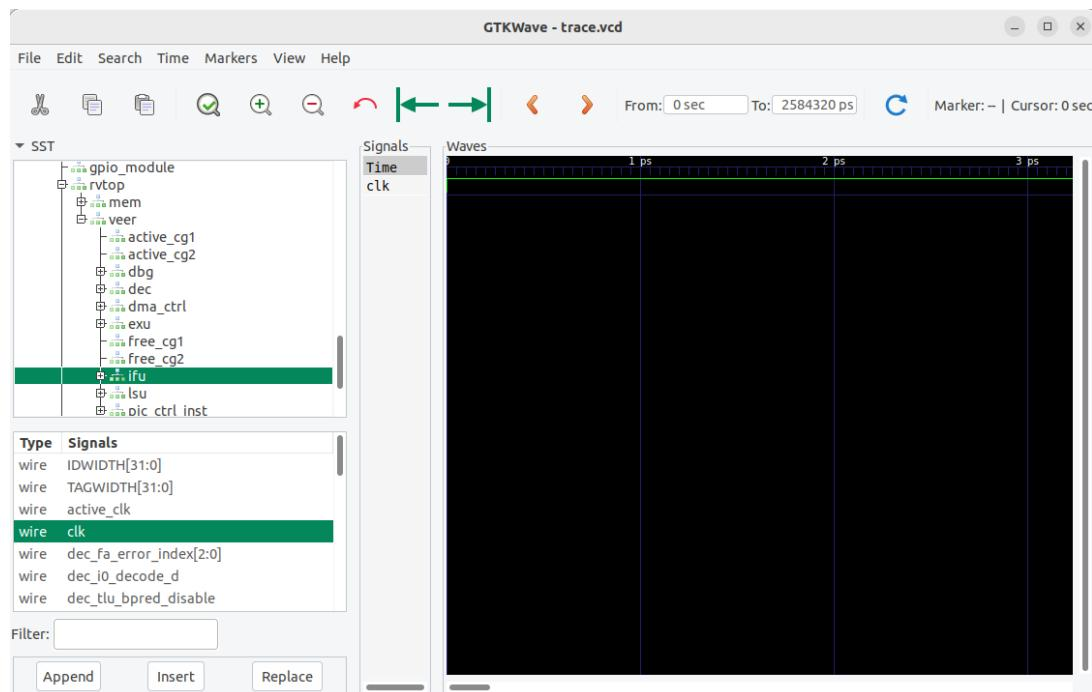

Figure 68. Add signal *c/k* to the graph
- Now you will add clock, instruction, and register signals. On the top left pane of *GTKWave*, expand the hierarchy of the SoC so that you can add signals to the graph. Expand the hierarchy into **TOP** → **rvfpgasim** → **VeeRwolf** → **rvttop** → **veer**, and click on module **ifu** (it will highlight as shown in the Figure 68), select signal **clk** (which is the clock used for the core) and drag it into the white Signals pane or the black Waves pane on the right.